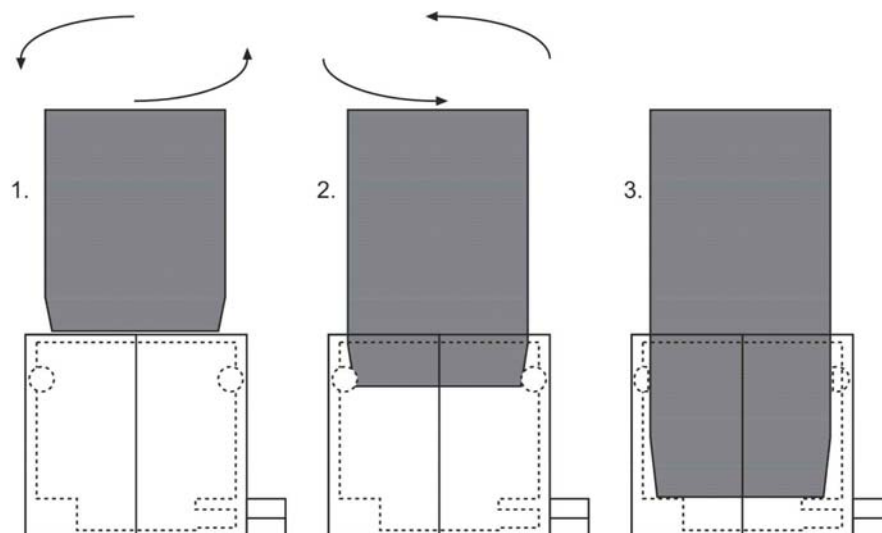

Figure 3-17. Pushing down reactor
3. While twisting the reactor, gently push down the reactor in the lower tube connection with one hand on the upper side and the other hand on the lower side. See Figure 3-17.
Note Older versions of the Flash EA are equipped with bottom connectors. See Figure 3-17. Newer versions, however are treated according to Figure 3-19. ▲